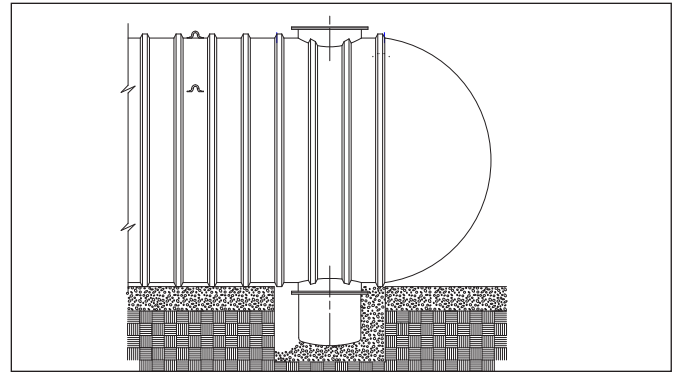

FIGURE 5-3
5.2.4. Use the lifting lugs that are situated at the top centerline of the tank and move the upright tank into place in the excavation as shown in FIGURE 5-3
5.3.3. Use the lifting lugs that are situated at the top centerline of the tank and rotate the tank to its upright position as shown in FIGURE 5-3.
6.1. Using approved backfill material as specified in the Installation Manual, thoroughly backfill the area around the bottom sump. (See FIGURE 5-3.)